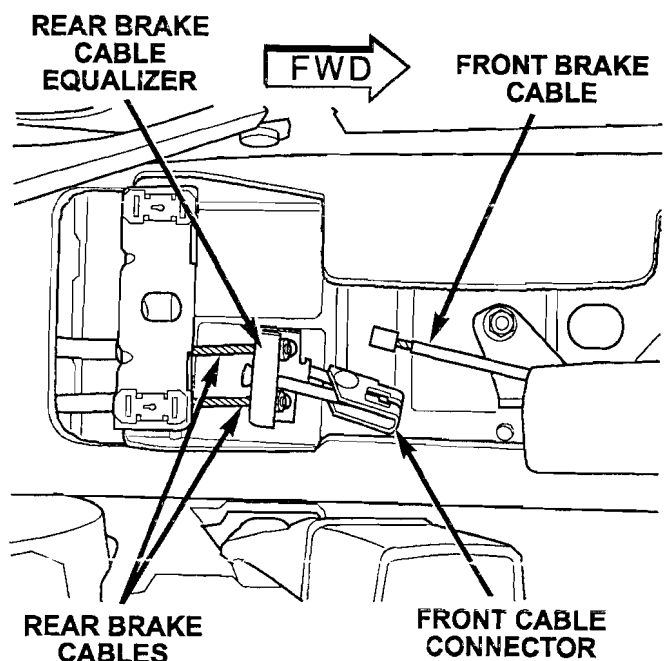

Figure 4
11. Disconnect the front park brake cable from the front cable connector (Figure 4).